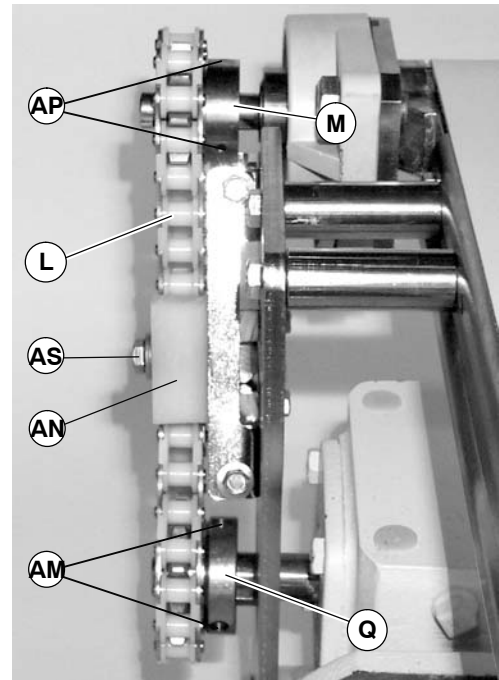
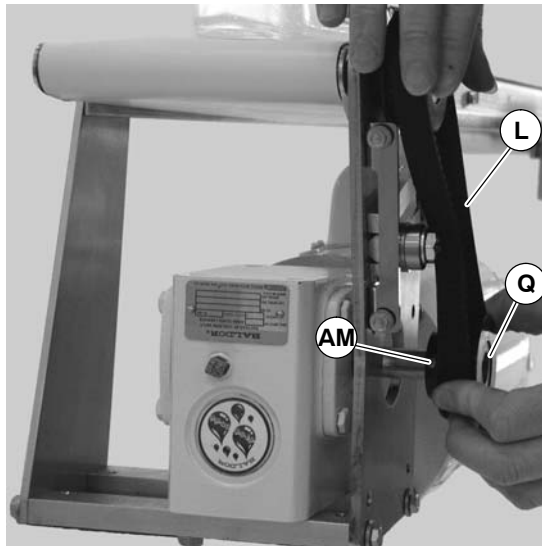

Figure 29
Figure 38
- Loosen timing chain tensioner screw (AS of Figure 29).
6. Install timing chain (L) over sprockets (M and Q). Install timing chain and sprockets on conveyor input shaft (Z) and gear reducer output shaft (AO). Do not tighten sprocket set screws.
IMPORTANT: Make sure center of timing chain (L of Figure 29) aligns with center of chain tensioner (AN). If necessary, loosen two set screws (AM) to move drive sprocket (Q) in or out. Tighten set screws. Also, if necessary, loosen two set screws (AP) to move driven sprocket (M) in or out. Tighten set screws.
7. Slide chain tensioner (AN) to take up chain slack. Tighten chain tensioner screw (AS of Figure 29) to 92 in-lb (10.4 Nm).
- 4b. Slide chain tensioner (AN) to take up chain slack. Tighten chain tensioner screw (AS of Figure 29) to 92 in-lb (10.4 Nm).
NOTE: For a timing chain, it may be necessary to remove driven sprocket (M of Figure 29) by loosening two set screws (AP) to remove drive sprocket (AM of Figure 38).
3. Loosen two drive pulley or sprocket set screws (AM of Figure 38). Remove drive pulley or sprocket (Q) and timing belt (L).